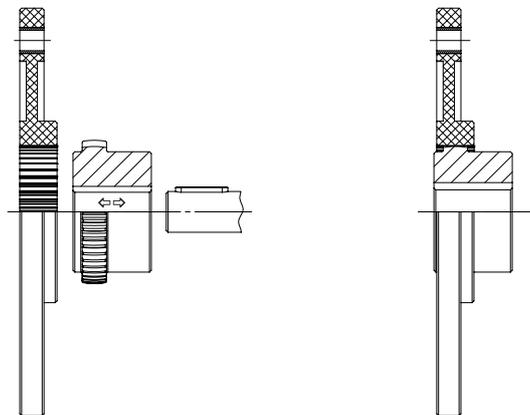

Figure 4-8 - SITEX® FL: mounting
- Move the motor and the driven equipment up to get alignment between the teeth of hub and flange, using the dimensions L3-L4 as reference (FIGURE 4-8 - SITEX® FL: mounting e TABLE 2.9)